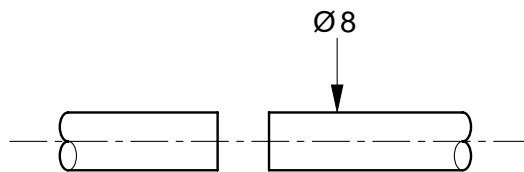

Fig. 5
- (b) Fig. 5 shows two $\text{Ø}8$ rods to be joined together. Show, with the aid of diagrams, **two** methods of joining the $\text{Ø}8$ rods without the use of heat or adhesives. The two rods may be modified and additional components may be used in order to solve the problem.